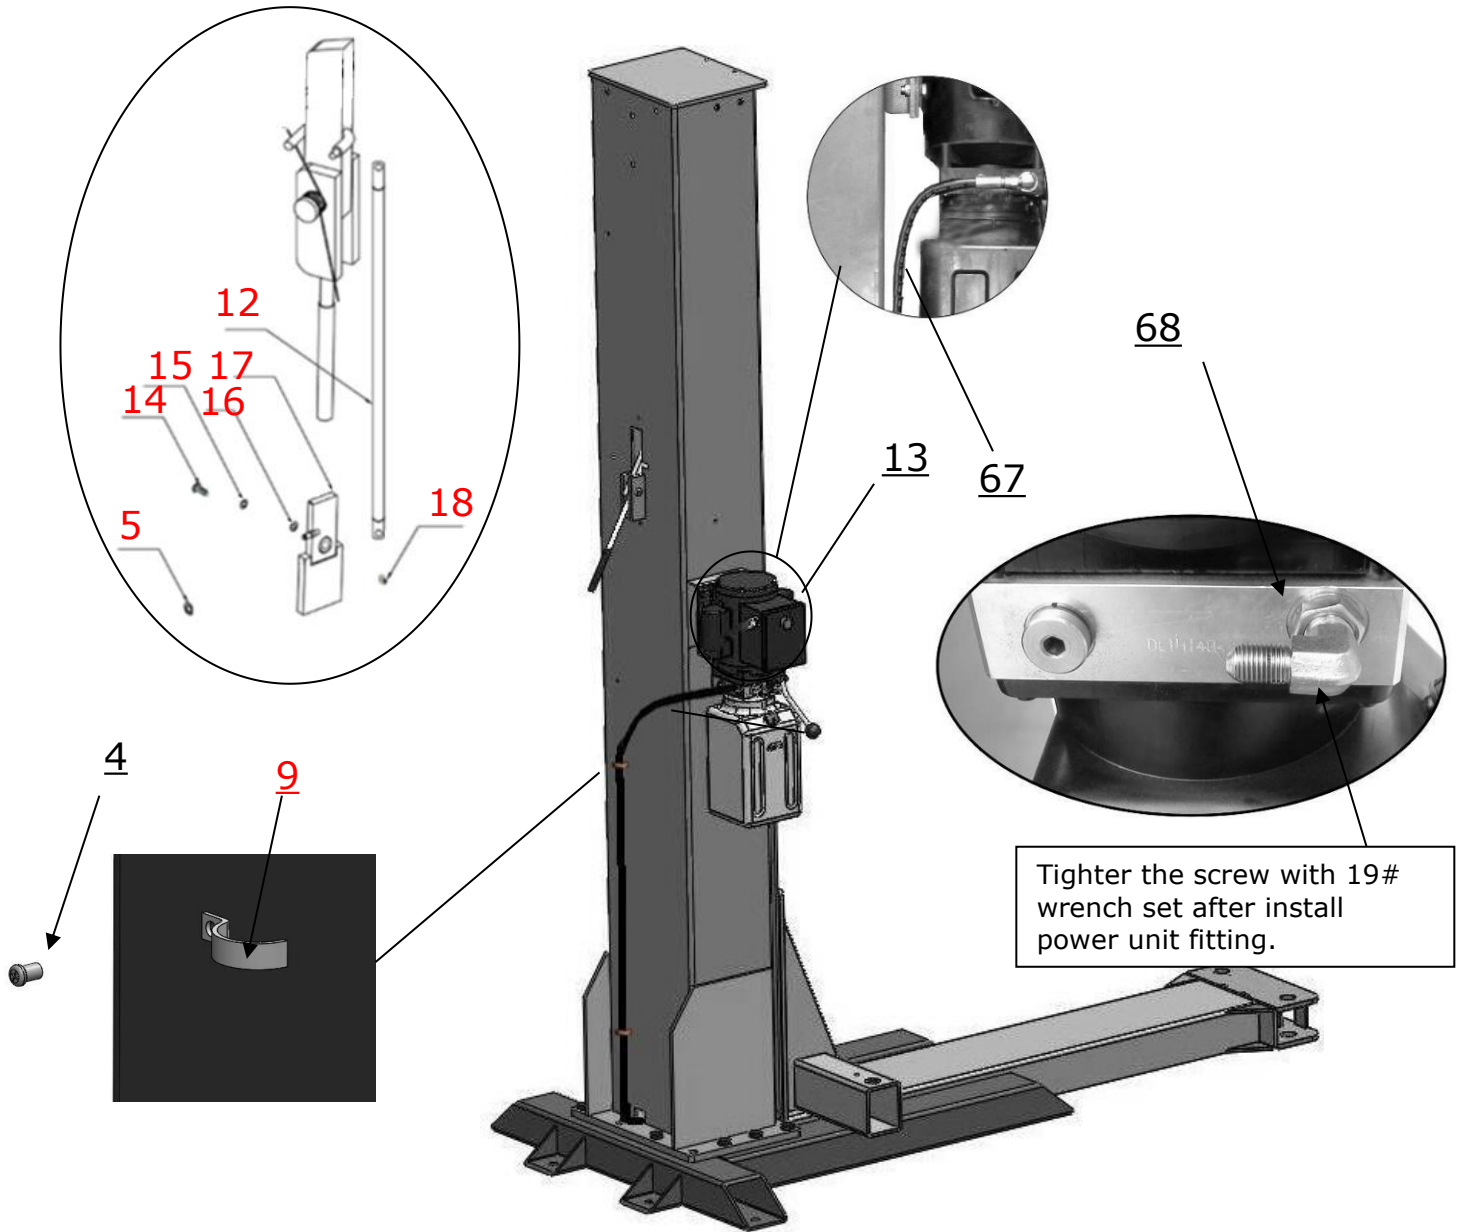

Fig.14
E. Install safety device, power unit, oil hose and wire holder (See Fig.14)